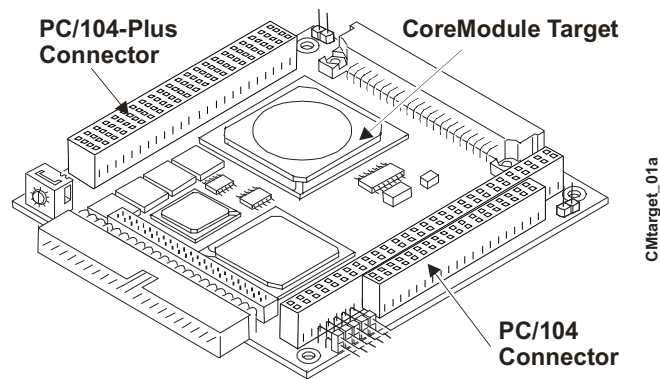

Figure 2-1. CoreModule Target System Example
<ul style="list-style-type: none"> <li>• If the target system has already been setup on the workbench and is ready for installation of the MM PCC III, skip this section and go to Step 9.</li> <li>• Refer also to the target system Quickstart Guide for all instructions referenced in the following steps. See Figures 2-1 and 2-2 for examples of CoreModule and Little Board Target Systems.</li> </ul>
13) Position the MiniModule PCC III over the target system	<ul style="list-style-type: none"> <li>• The MiniModule PCC III must be positioned over the PC/104 and PC/104-Plus connectors on the target system. See Figures 2-1 to 2-4.</li> </ul> <p>Typically the MiniModule PCC III board is installed on the topside of the target system, but in some cases, it may be installed underneath the target system.</p>